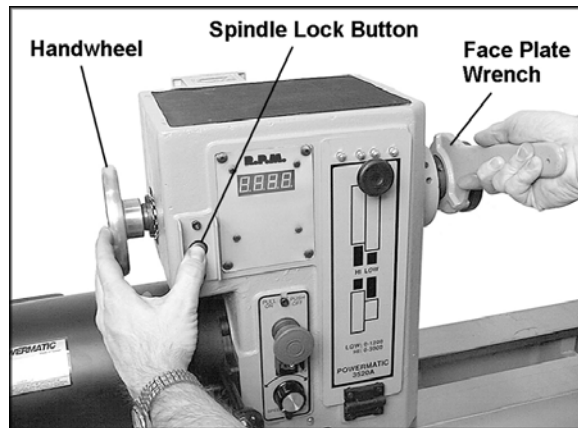
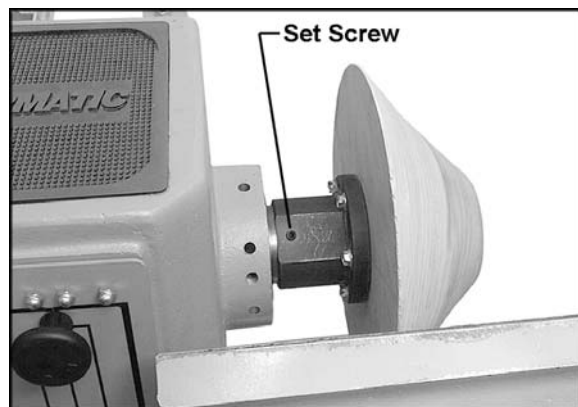

Figure 21
Figure 22
- Push in the spindle lock button (Figure 21) and rotate the handwheel slightly until the spindle locks. Keep the spindle lock button pushed in.
WARNING If at any time you will be *reversing* spindle rotation, make sure the two set screws in the face plate are tight! One of these is shown in Figure 22. Failure to do this may cause the face plate to loosen from the headstock spindle.
- To *remove* the face plate, loosen the two socket set screws (Figure 22). Engage the spindle lock button and turn the face plate counterclockwise with the face plate wrench, as shown in Figure 21.
⚠WARNING When turning with a face plate, make sure both set screws on the face plate are tight (see Figure 22) before reversing the spindle. Failure to comply may cause the face plate to spin loose from the spindle.